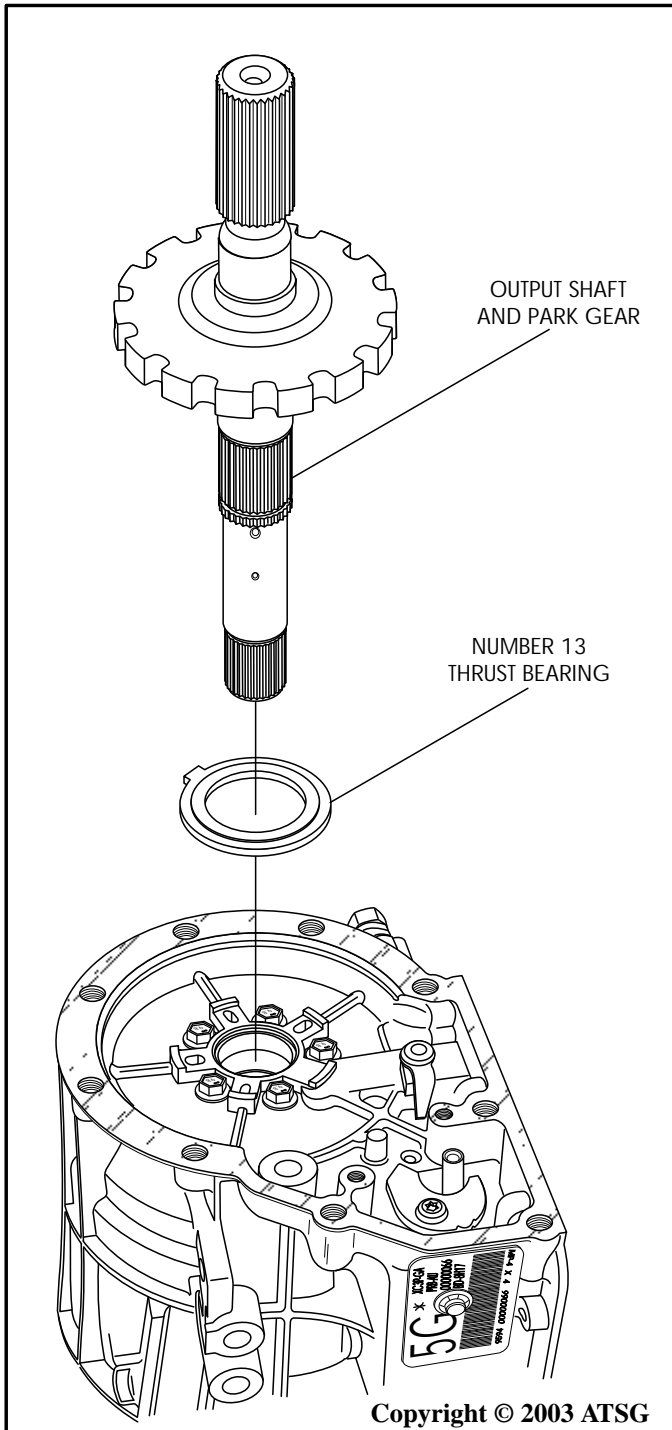

Figure 77
36. Remove the output shaft by pulling straight up, as shown in Figure 77.
37. Remove the number 13 thrust bearing from the back of case, as shown in Figure 77.